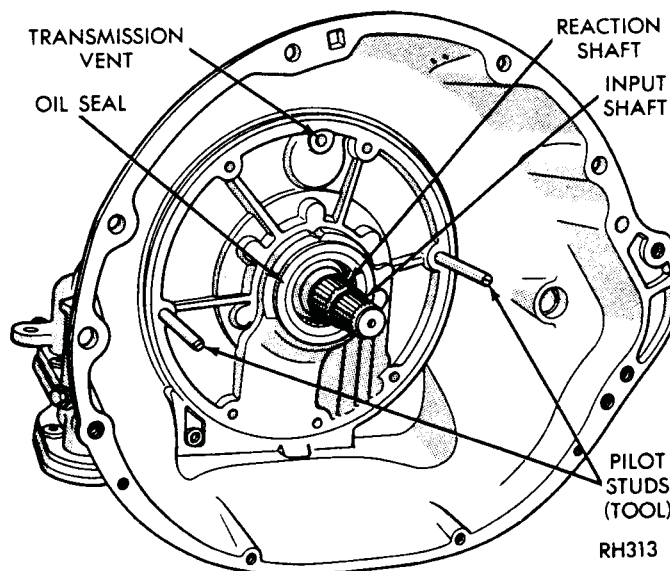

Fig. 49—Installing Oil Pump
(1) Screw two pilot studs Tool C-3288-B in pump opening in the case (Fig. 49). Install a new gasket over the pilot studs.
(2) Place a new rubber seal ring in the groove on outer flange of pump housing. Make sure seal ring is not twisted. Coat seal ring with grease for easy installation.
(3) Install pump assembly in the case; tap it lightly with a soft mallet, if necessary. Remove pilot studs, install bolts and snug down evenly.